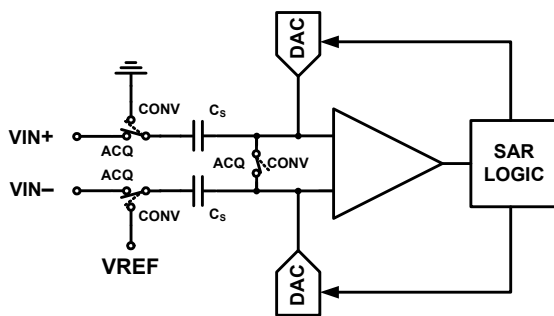

FIGURE 19. SAR ADC ARCHITECTURAL BLOCK DIAGRAM
The ISL267452 is based on a successive approximation register (SAR) architecture utilizing capacitive charge redistribution digital to analog converters (DACs). Figure 19 shows a simplified representation of the converter. During the acquisition phase (ACQ) the differential input is stored on the sampling capacitors (CS). The comparator is in a balanced state since the switch across its inputs is closed. The signal is fully acquired after  $t_{ACQ}$  has elapsed, and the switches then transition to the conversion phase (CONV) so the stored voltage may be converted to digital format. The comparator will become unbalanced when the differential switch opens and the input switches transition (assuming that the stored voltage is not exactly at mid-scale). The comparator output reflects whether the stored voltage is above or below mid-scale, which sets the value of the MSB. The SAR logic then forces the capacitive DACs to adjust up or down by one quarter of full-scale by switching in binarily weighted capacitors. Again, the comparator output reflects whether the stored voltage is above or below the new value, setting the value of the next lowest bit. This process repeats until all 12 bits have been resolved.